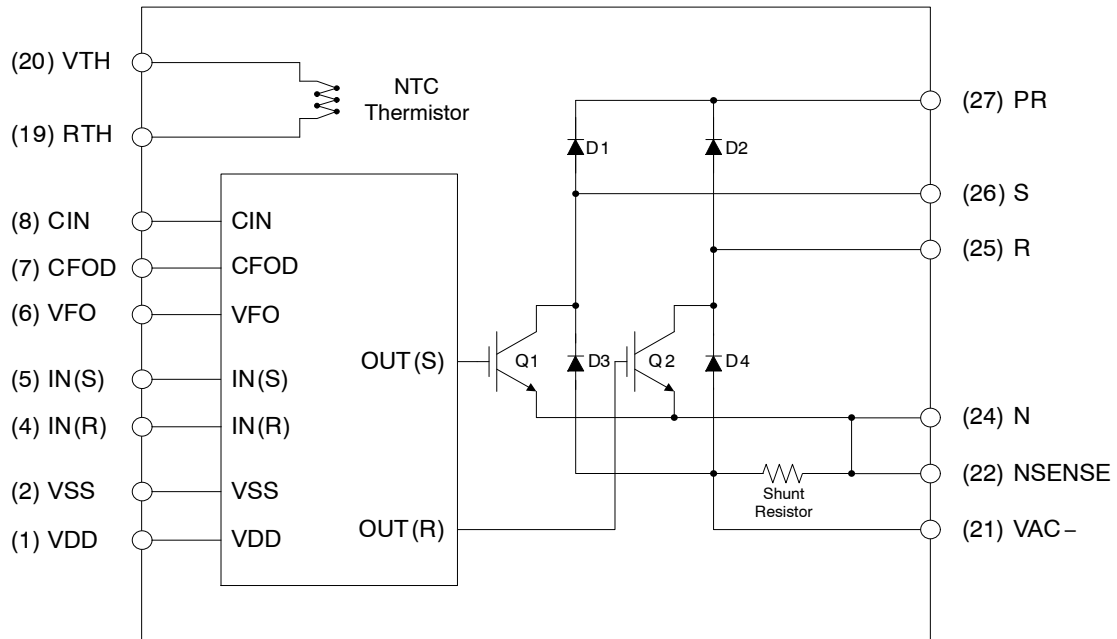

Figure 2. Internal Block Diagram
- 600 V – 60 A 2-Phase Bridgeless PFC for Single-phase AC / DC Power Conversion (refer to Figure 2)